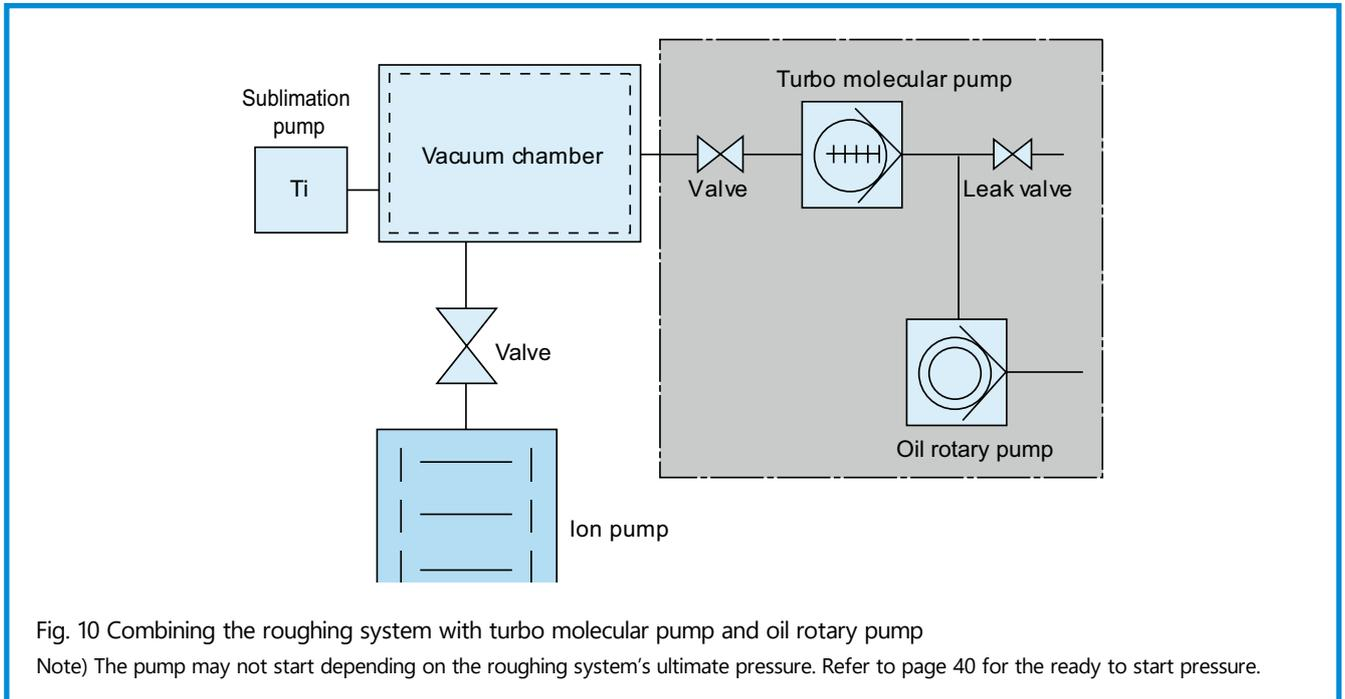

Fig. 10 Combining the roughing system with turbo molecular pump and oil rotary pump
If the appropriate components and pump are not selected carefully, the intended performance of the ion pump may not be able to be achieved. Please contact us when designing the vacuum system. In general, the exhaust system configuration shown in Figure 10 is recommended.
• System combining the turbo molecular pump and oil rotary pump (Fig. 10)